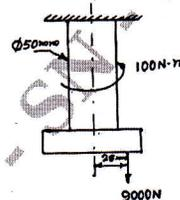

Fig. Q1 (b)
b. A 50 mm diameter steel rod supports a load of 9 kN and in addition is subjected to a torsional moment of 100 N-m as shown in Fig. Q1 (b). Determine the maximum tensile and the maximum shear stress. (08 Marks)